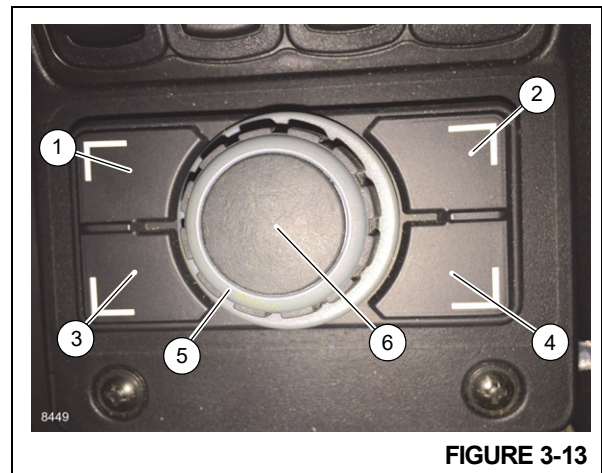

FIGURE 3-13
The Jog Dial operates the CCS identically to buttons on the display console, providing easier access for the operator. Rotating the jog dial performs the same function as navigation arrow buttons on the display console. The icon in the lower left corner of the display screen reminds the operator which display is being controlled by the jog dial at that time. The Screen Toggle Button (4) (Figure 3-13) is used to switch screens. The tab button can also be used to temporarily silence audible alarms. Other buttons operate differently depending on area, screen, and menu.
The main screen (below) appears on the operating display (lower screen) when the key is turned on. The main screen displays the crane system status. The amber lit icons are enabled. It also displays data from codes on other screens. The operator can choose and activate areas from this screen. The Escape Button (1) (Figure 3-13) defaults back to the main screen.
When menu button on the jog dial (3) (Figure 3-13) or control panel of the CCS is pressed, an overview of menu groups displays.
For choosing options during rigging. This is the only function where the menu button (3) (Figure 3-13) will not automatically navigate directly to the menu screen. It must be selected and chosen with the menu icon on the lower left of this screen.
Press Escape button (1) (Figure 3-13) to leave menu and return to CCS main screen. The operator can now navigate to the RCL screen.
Press OK/Enter button on display or jog dial (6) (Figure 3-13) to exit outrigger screen.